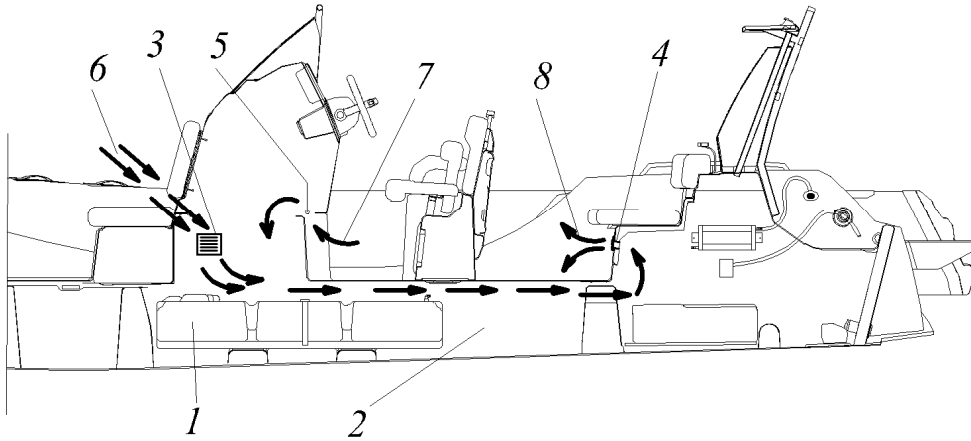

Fig.7a
In Fig.7a you can see how the fuel tank compartment ventilation on your boat functions. Air enters to the tank compartment through the grid (3) and opening (5) and exits through the rear grids (4).